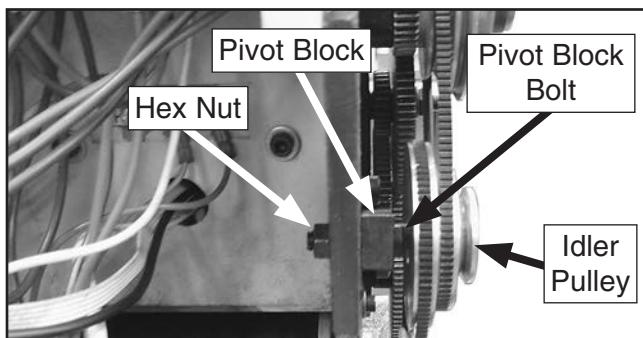

Figure 140. Pivot block bolt and hex nut for idler pulley adjustment.
3. Using flat 10mm wrench provided with lathe, hold pivot block bolt shown in **Figure 140**, and loosen hex nut with 13mm wrench.